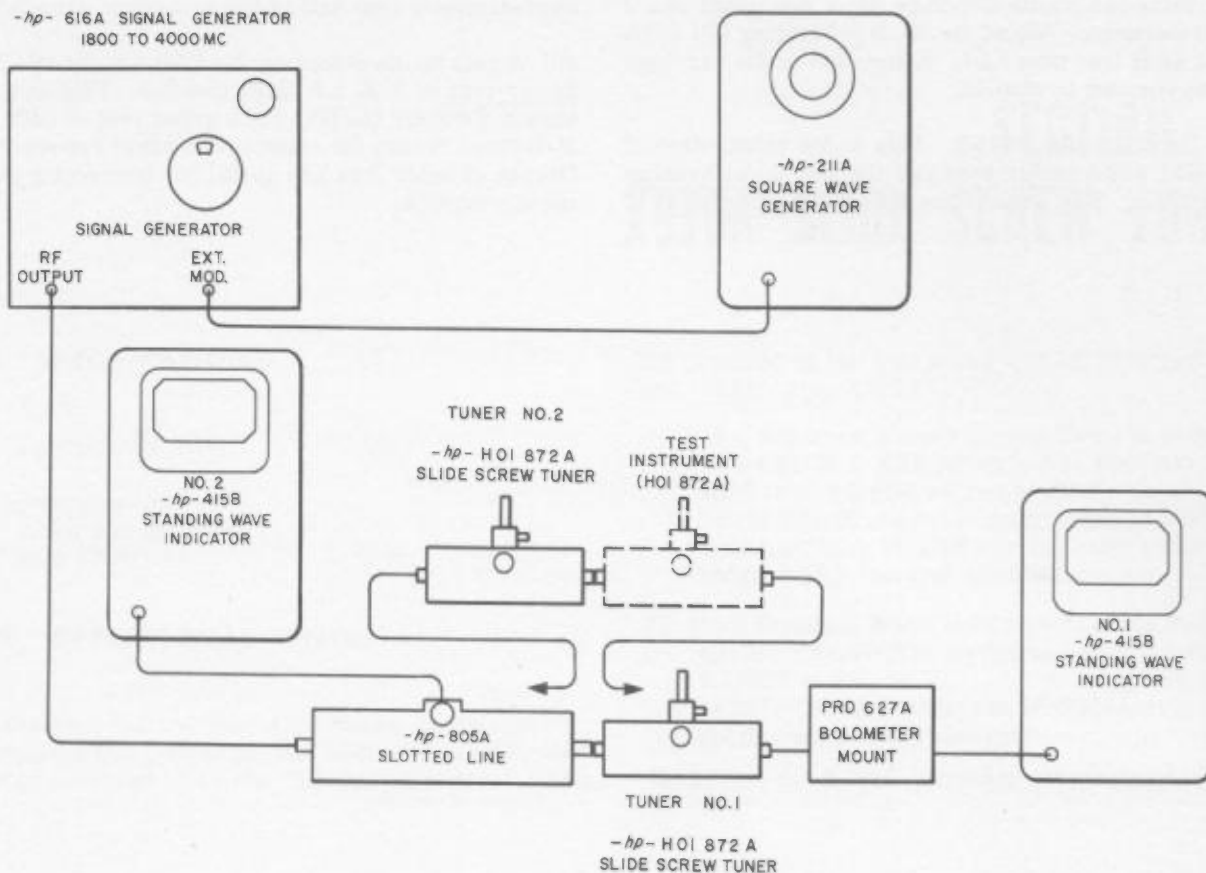

Figure 6-2. Checking H01 872A Slide Screw Tuner Loss
- 3) Connect the equipment as shown in Figure 6-2 to measure the tuner loss. Do not connect the 415B Standing Wave Indicator to the 627A Detector Mount at this time.